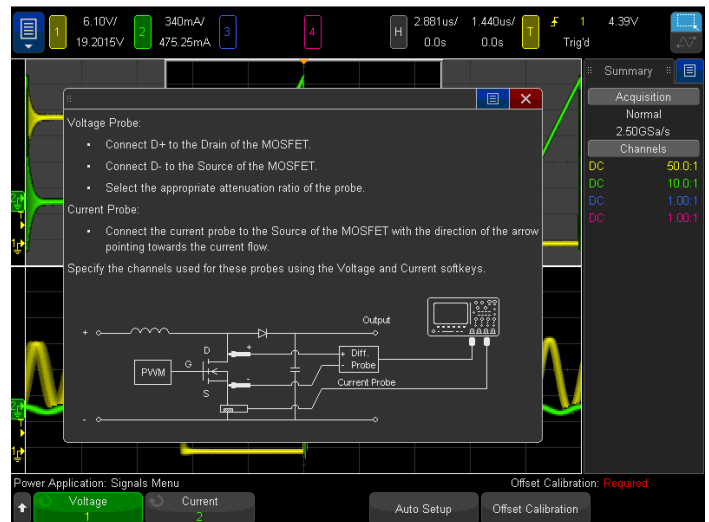

Figure 15. Connecting the voltage and current probes to the transistor switching device.
5. Connect the N2790A high-voltage differential probe between the scope's channel-1 input to the drain/collector (red lead) and source/emitter (black lead) of your switching transistor as illustrated in the on-screen connections diagram of Figure 15. If using Keysight's SMPS training kit, connect to TP3 (red lead) and TP4 (black lead).